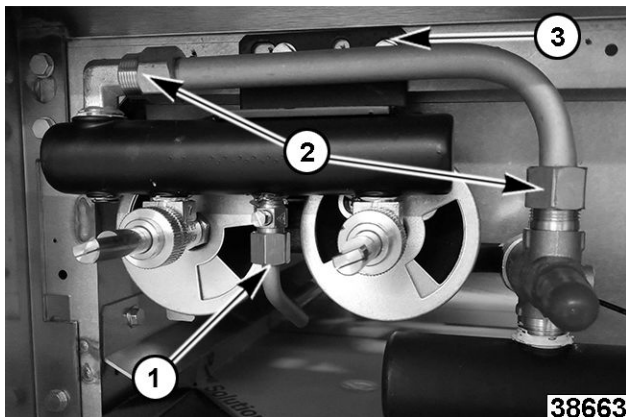

Fig. 103
3. Disconnect pilot tube (1, Fig. 103) from burner assembly.
4. Remove gas tube (2, Fig. 103).
5. Remove bracket mounting bolts (3, Fig. 103).